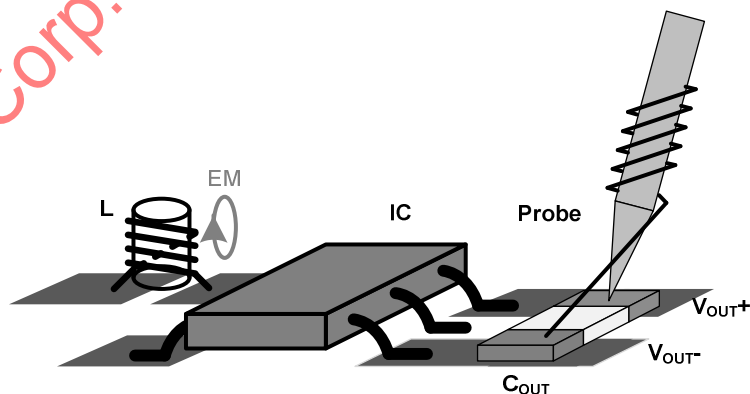

Figure.5 Recommended way to measure the output voltage ripple
A proper output ripple measurement should be done according to Figure 5 setup. Output voltage ripple should be measured across the output ceramic cap near the IC.
1. Remove the ground clip and head of the probe. Wind thin wires around the ground ring of the probe. Solder the end of the ground ring wire to the negative node of the C_{OUT}. Touch the probe tip to the positive node of the C_{OUT}. Refer to Figure 5.
3. Change the probing direction to decouple the electromagnetic noise generated from the nearby buck inductor (Refer to Figure 5).